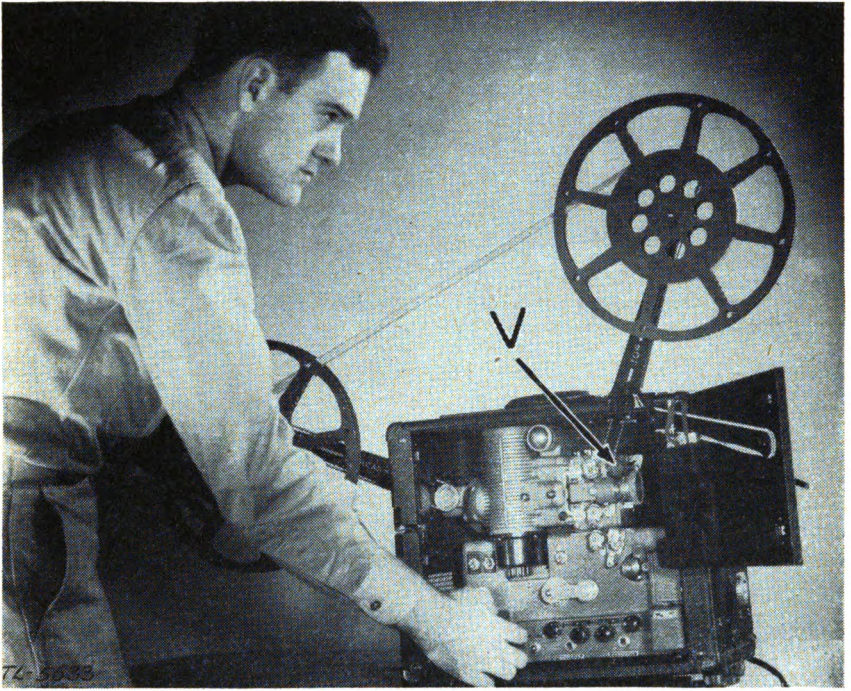

FIGURE 22.—Rewinding the Bell & Howell projector.
(3) *Bell & Howell.*—To rewind the Bell & Howell projector, change reels, loop the free end of the film around the empty reel, shift the clutch lever *V*, and start projector motor. (See fig. 22.)